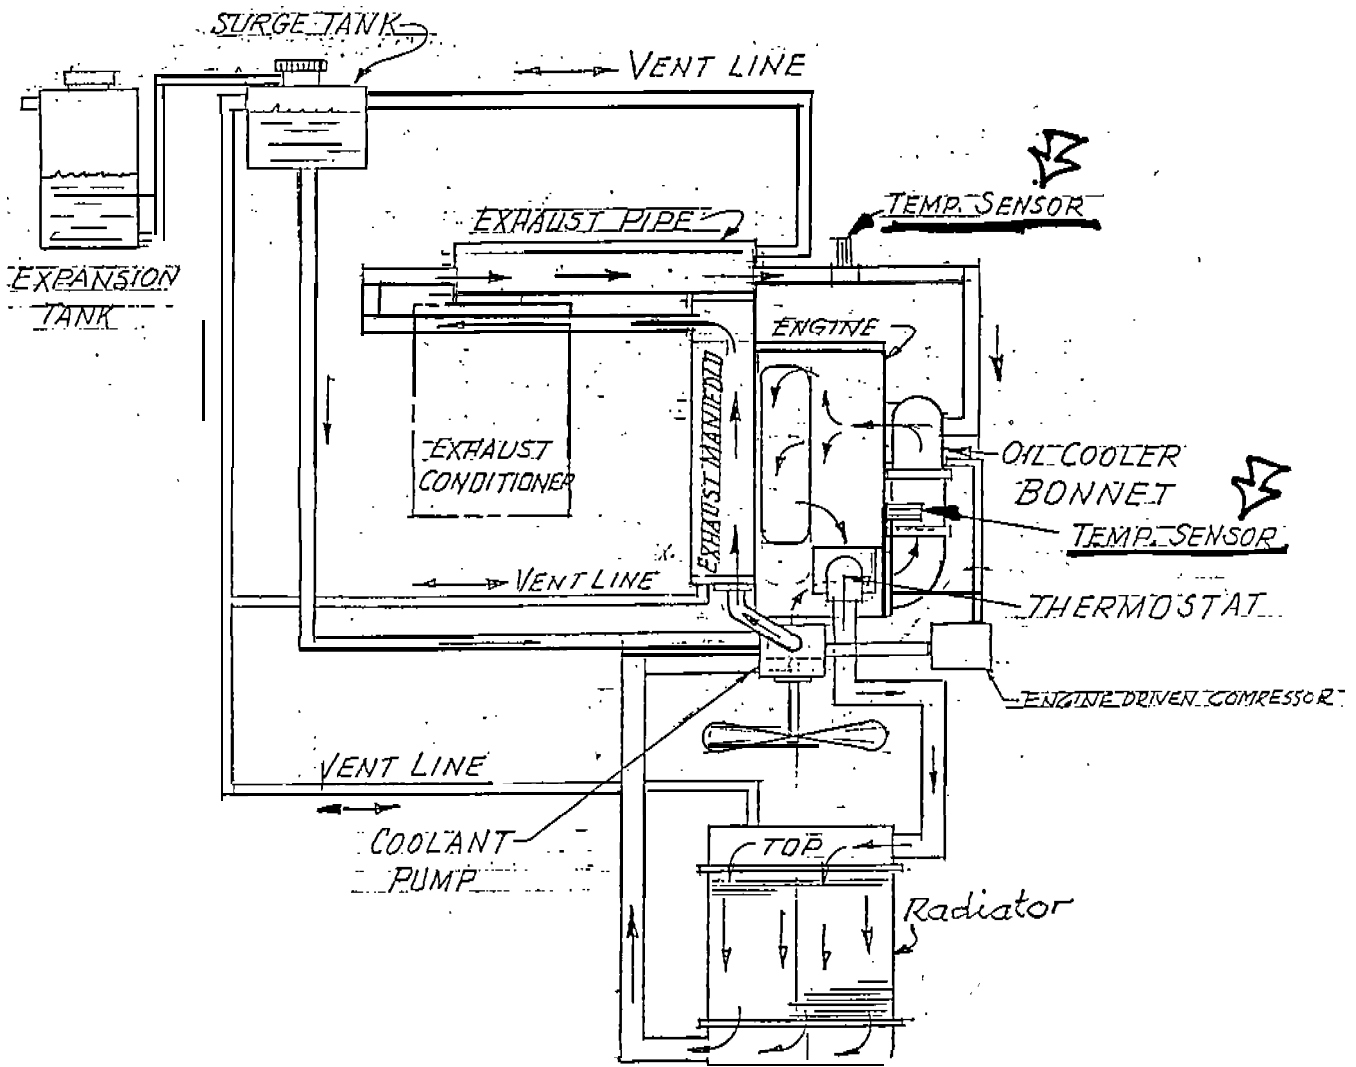

Figure 15. Coolant Temperature Sensor Locations.
27. ( ) The Safety/Cooling Systems include two temperature sensors. One is placed in the coolant discharge line from the exhaust pipe, a short distance downstream from the exhaust pipe connection. The other sensor is mounted in the cylinder head manifold casting near the thermostat housing at a position just above the air compressor, as shown in Figure 15.